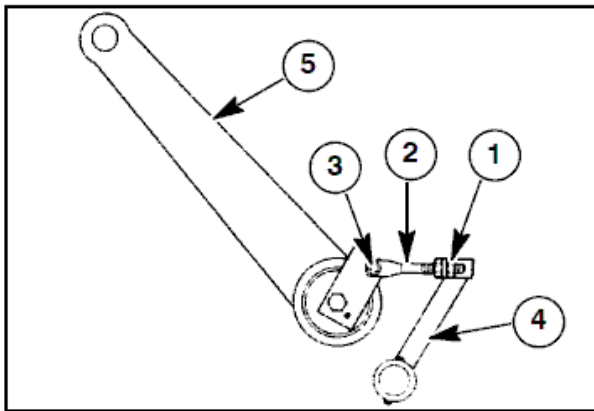

Figure 2-52
2. Loosen the locknut (1) in Figure 2-52, on the position control rod (2) in Figure 2-52.
3. Start the engine. Adjust the length of control rod (2) in Figure 2-52, shorter until relief valve start operate.
4. Then lengthen the control rod (2) in Figure 2-52 until the relief valve ceases operation, and one additional turn and tighten the locknut (1) in Figure 2-52.